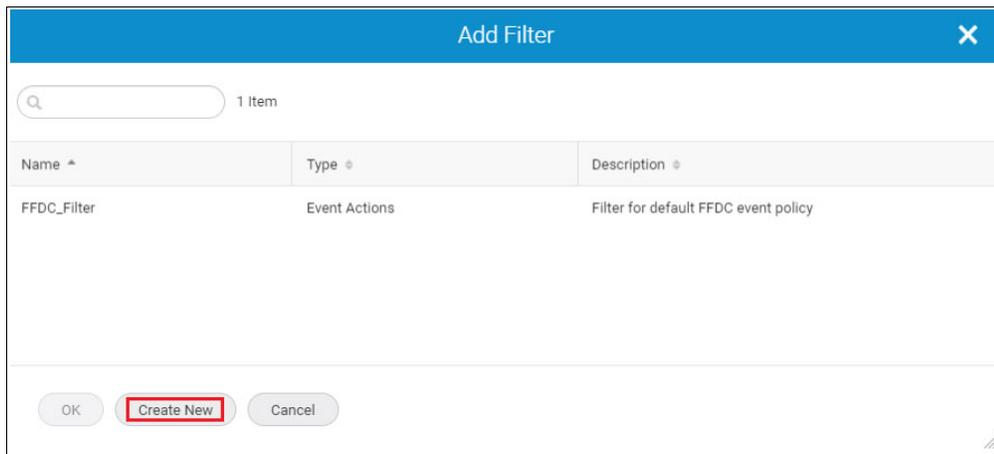

Figure 5-175 Event policy: Create New
5. Click **Create New** (Figure 5-175).